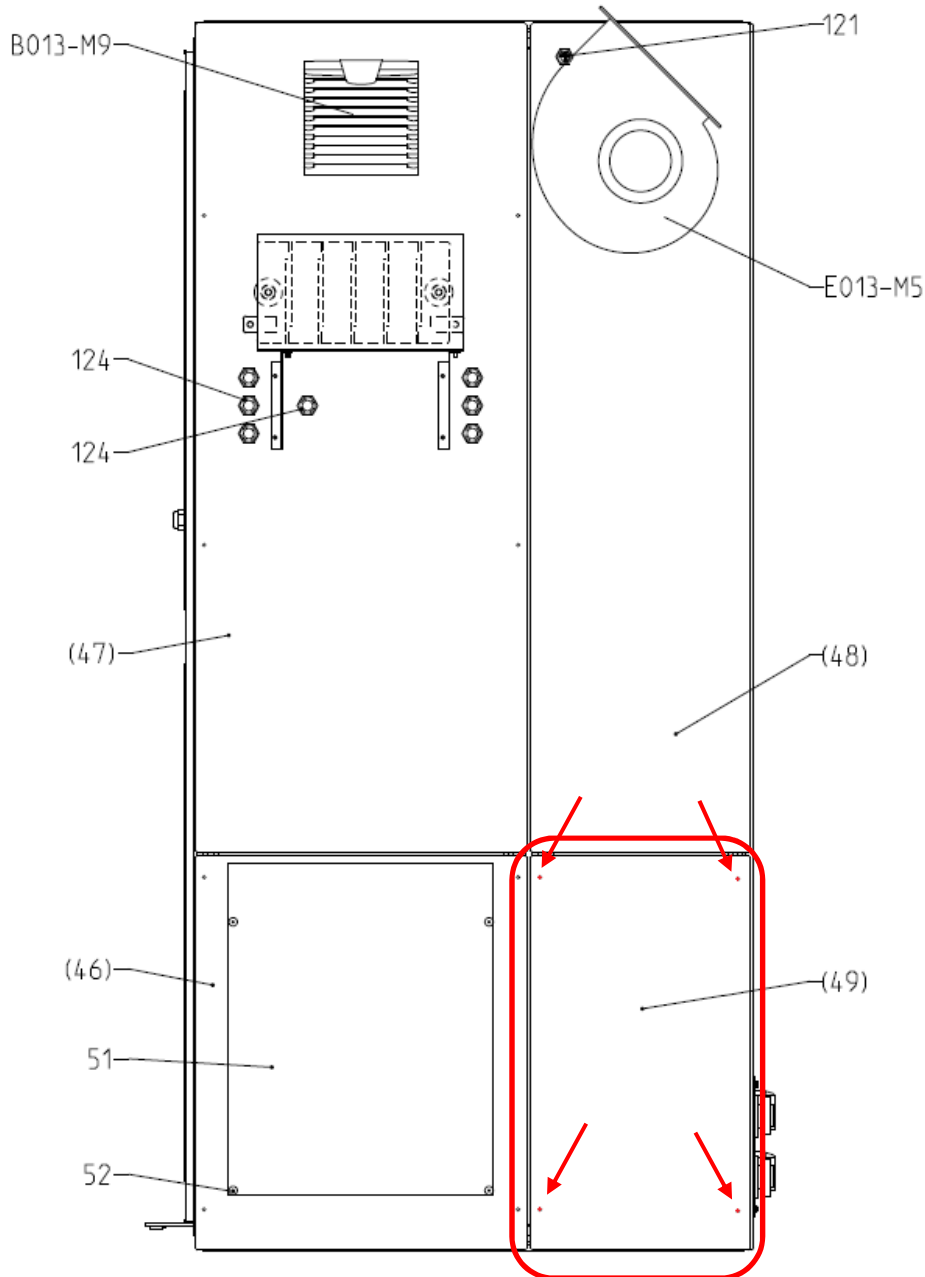

Figure 31: incoming feeder unit +1S3, view from back
- Unscrew upper small backplane (see red marking in Figure 31)